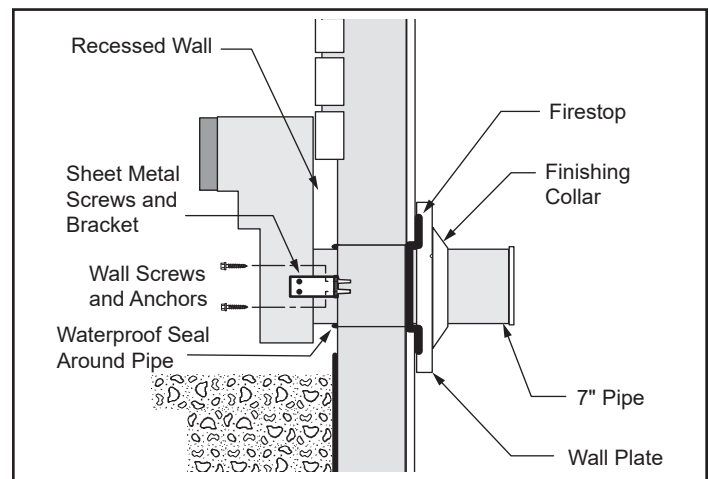

Figure 3.15 - Use extension brackets to mount snorkel against recessed wall.
7. If the foundation is recessed, use extension brackets (not supplied) to fasten the lower portion of the snorkel. Fasten the brackets to the wall first, and then fasten to the snorkel with self-tapping #8 x 1/2" sheet metal screws. Extend the vent pipes out as far as the protruding wall face, Figure 3.15.